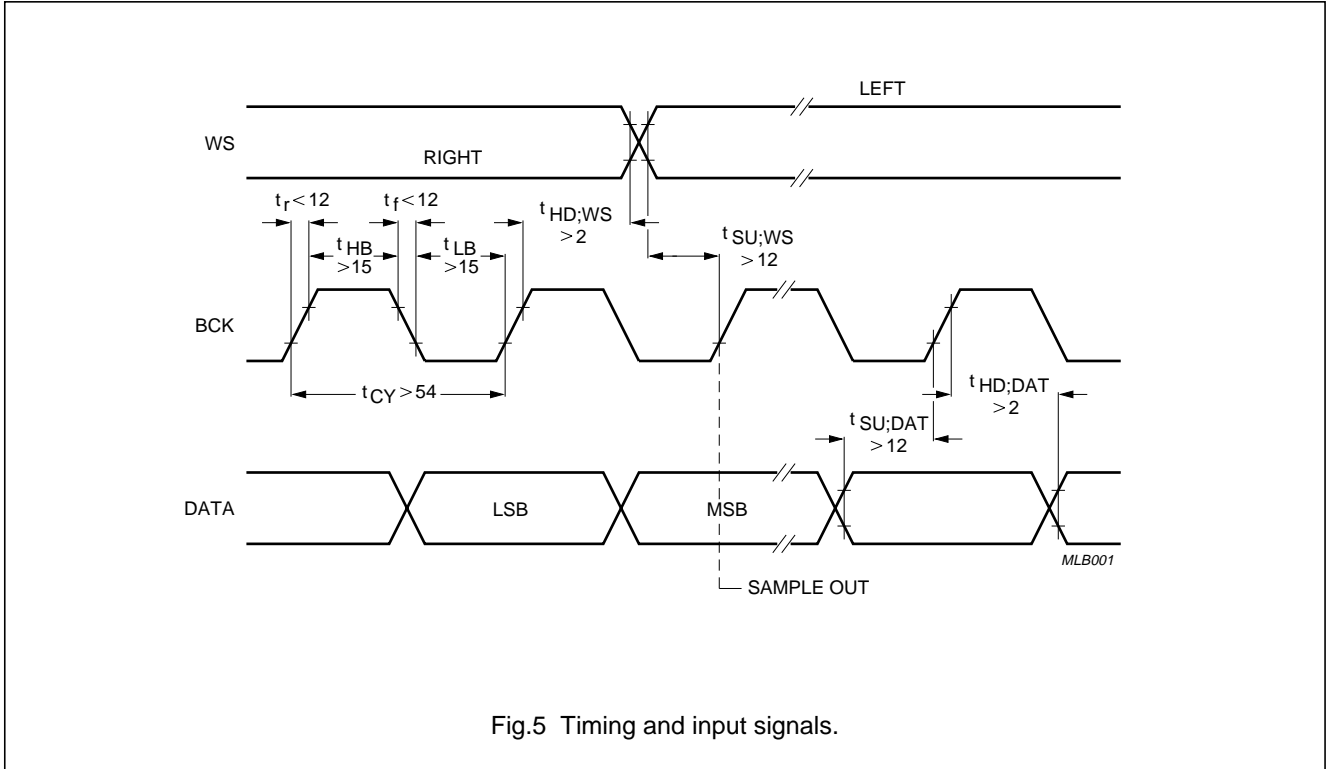

Fig.5 Timing and input signals.
The TDA1545A accepts input serial data formats of 16-bit word length. Left and right data words are time multiplexed. The most significant bit (bit 1) must always be first. The format of data input is shown in Figs 5 and 6. With a LOW level on the word select input (WS) input data is placed in the right input register and with a HIGH level on the WS input data is placed in the left input register.
Timing (see Fig.5)